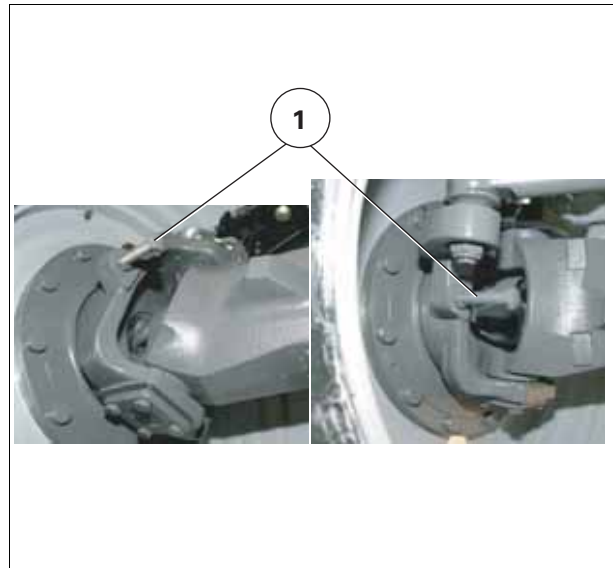

Fig. 2.
NOTE: With narrow track widths and with certain tyre fittings, the wheels may touch the bonnet when turning at maximum lock. To prevent this, the hubs are fitted with threaded stops (1) fig. 2, which can be adjusted to limit the steering angle.